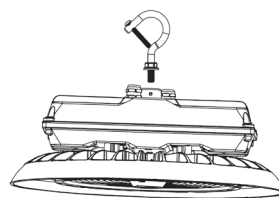

Fig. 1
1. Screw the hook into the fixture and tighten to secure. (Fig. 1)